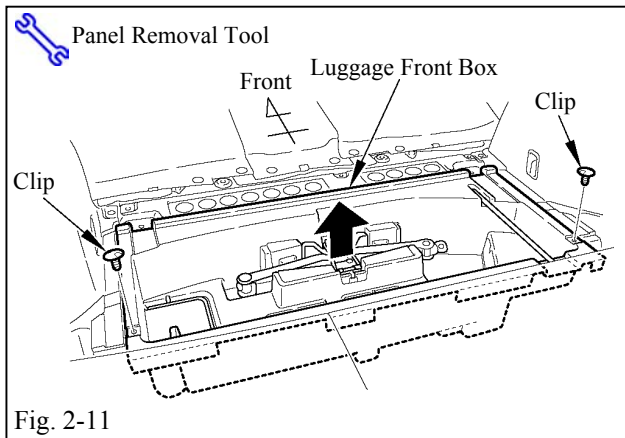

Fig. 2-11
- (l) Remove the luggage front box (Fig. 2-11).
- (1) Remove the clips.